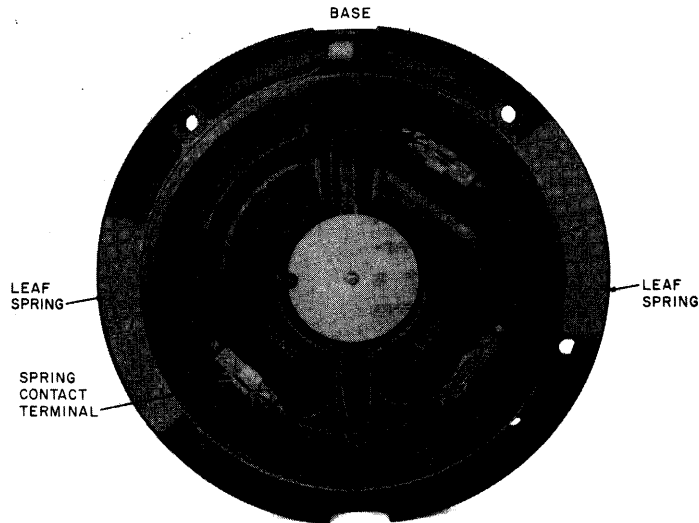

Fig. 4—Local Wiring in Base
3.03 Connect local wiring to terminals in base of set (Fig. 4). Check unused pipe plug to insure that a minimum of five threads are engaged to permit installation of special cap fitting. Slide cap fitting into place over pipe plug. This cap must be assembled to base prior to assembly of the apparatus unit to the base.